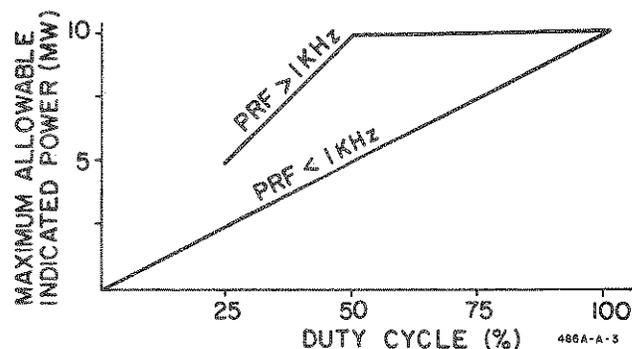

Figure 2. Maximum Power Meter Reading vs. Duty Cycle for Pulses Longer than 250  $\mu$ sec
16. For pulses longer than 250  $\mu$ sec, the peak power limitation can be expressed in terms of PRF: 10 mW for a PRF below 1 kHz, 20 mW for a PRF 1 kc or above provided 15 mW average is not exceeded. In Figure 2, the peak power limit is translated into power-meter reading versus duty cycle. (For a PRF less than 1 kHz and an indicated power between 2 and 3 mW, use the 10-mW range. Errors as much as 2% may be introduced if the 3-mW range is used.)